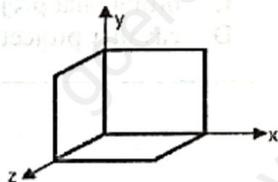

Figure 15
20. Three planes meet together along the axes x, y and z as shown in figure 15 below